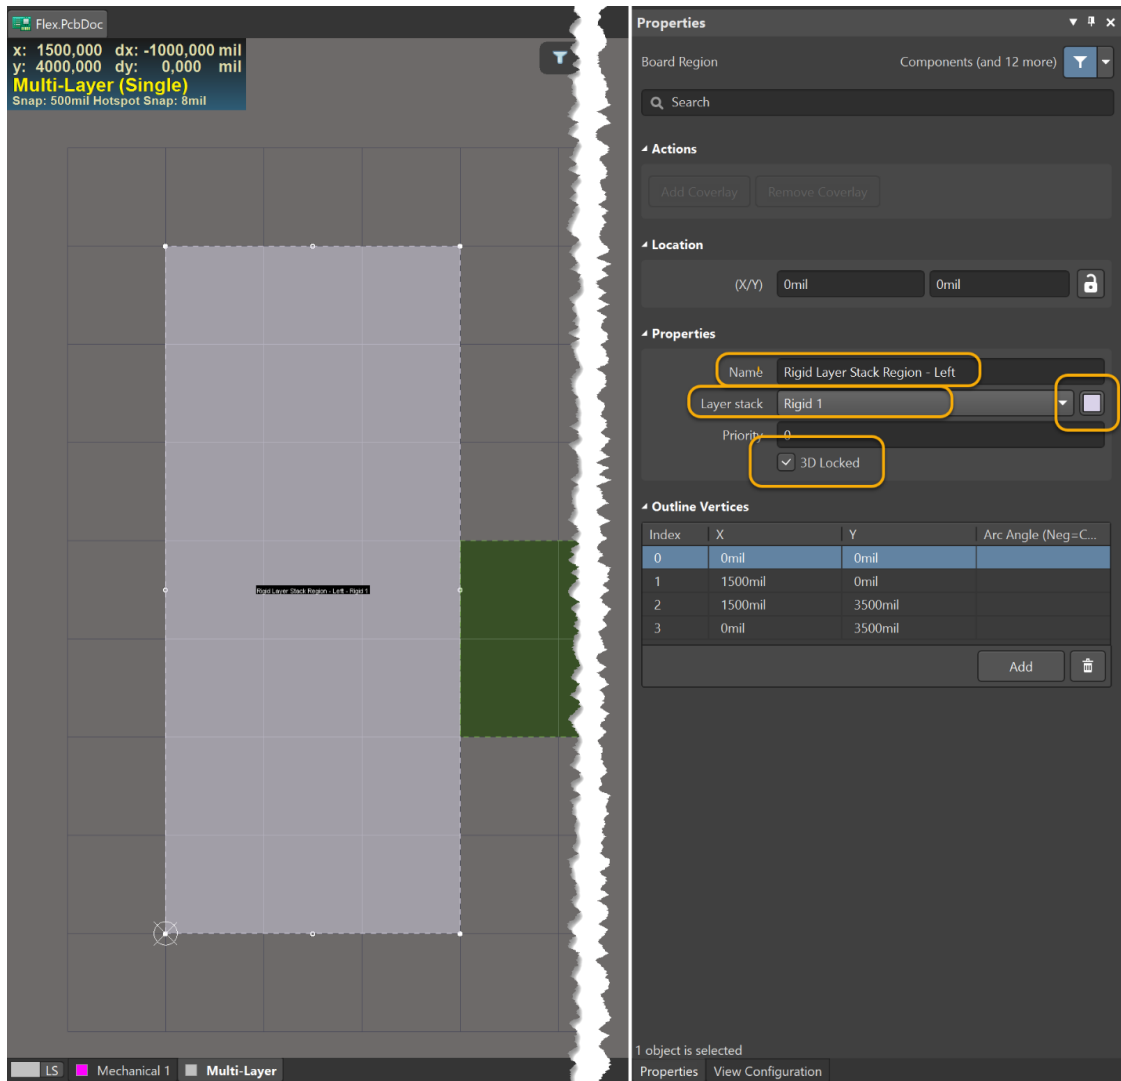

Figure 6. Left Board Region properties
- Set the Layer Stack to **Rigid 1**, as shown in Figure 6.